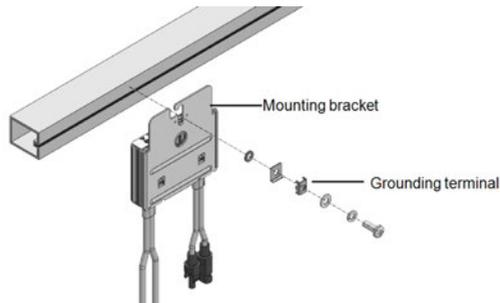

Figure 7: Power optimizer grounding terminal
- **For mounting on un-grounded structures** (such as a wooden structure): If the star washer or the plate cannot be used, use the SolarEdge grounding lug (purchased separately) with an equipment-grounding conductor according to the supplied instructions. The grounding terminal accepts a wire size of 6-14 AWG, and must be sized for equipment grounding per NEC 250.122 requirements. Tighten the screws connecting the power optimizer to the frame and the grounding terminal screw. Apply torque of 9.5 N*m / 7 lb*ft. See *Figure 7*.